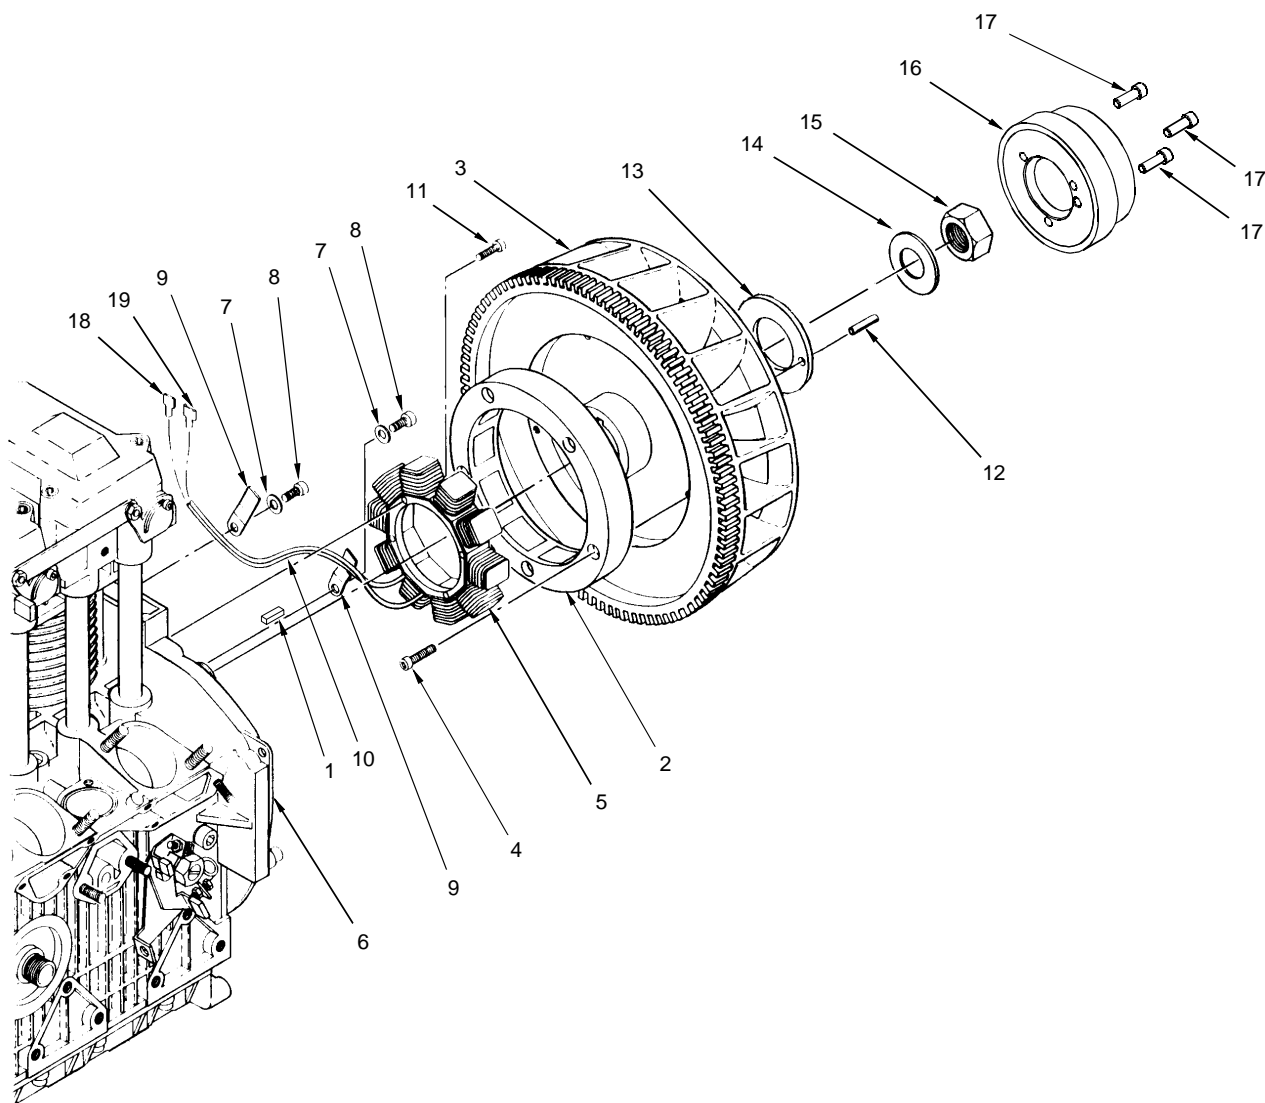

Figure 20. Flywheel/Alternator Installation
**INSTALL FLYWHEEL/ALTERNATOR ROTOR AND STATOR** (Refer to Figure 20.)**INITIAL SET-UP:****Tools:**